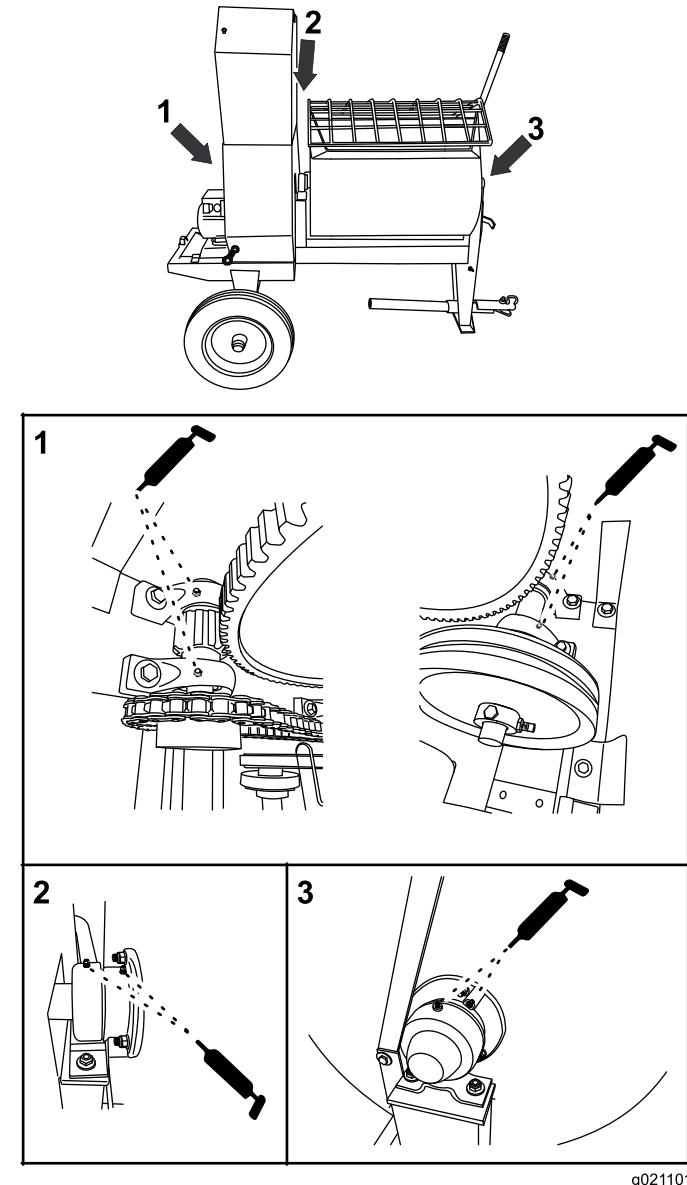

Figure 32
1. Clean around each grease fitting with a rag and lift the plastic cap off the grease fitting (Figure 32).
- For the pillow-block bearings, pump 1 shot of grease into each fitting (Figure 32).
- For the trunnions, pump several shots of grease into each fitting until it starts to ooze out of the bearing housing (Figure 32).